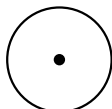

Figure 5.2 Laser pointer with circular border indicating temperature measurement spot
5. Press the Laser pointer button to switch ON the Laser pointer. The TG275 Laser pointer includes a circular spot indicating the area that is being monitored for temperature. See the Laser pointer image example below in **Figure 5.2**. If the Laser beam does not appear when the button is pressed, check the menu system (under *Device Settings*) to see if the Laser is enabled.